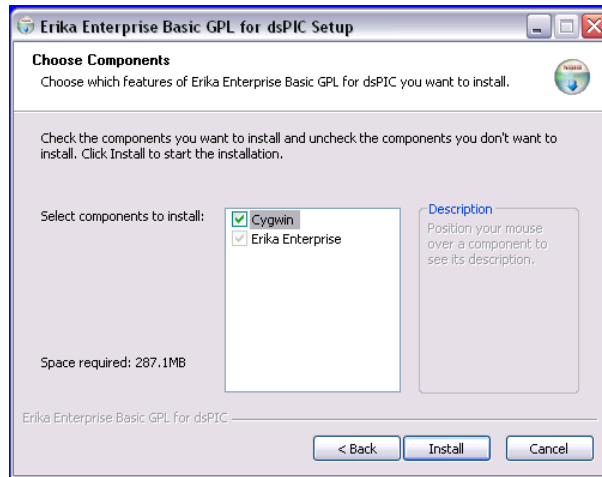

Figure 2.1: This screenshot shows the dialog box with the available install packages.
4. The installer will prompt a list of packages which can be installed. Select all the packages you wish to install and continue the installation procedure (see Figure 2.1).